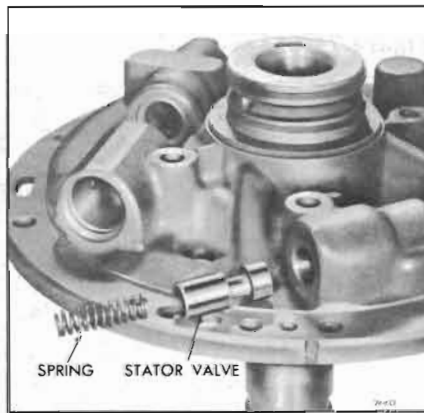

Figure 74-623
11. Remove stator valve spring and valve. See Figure 74-623.